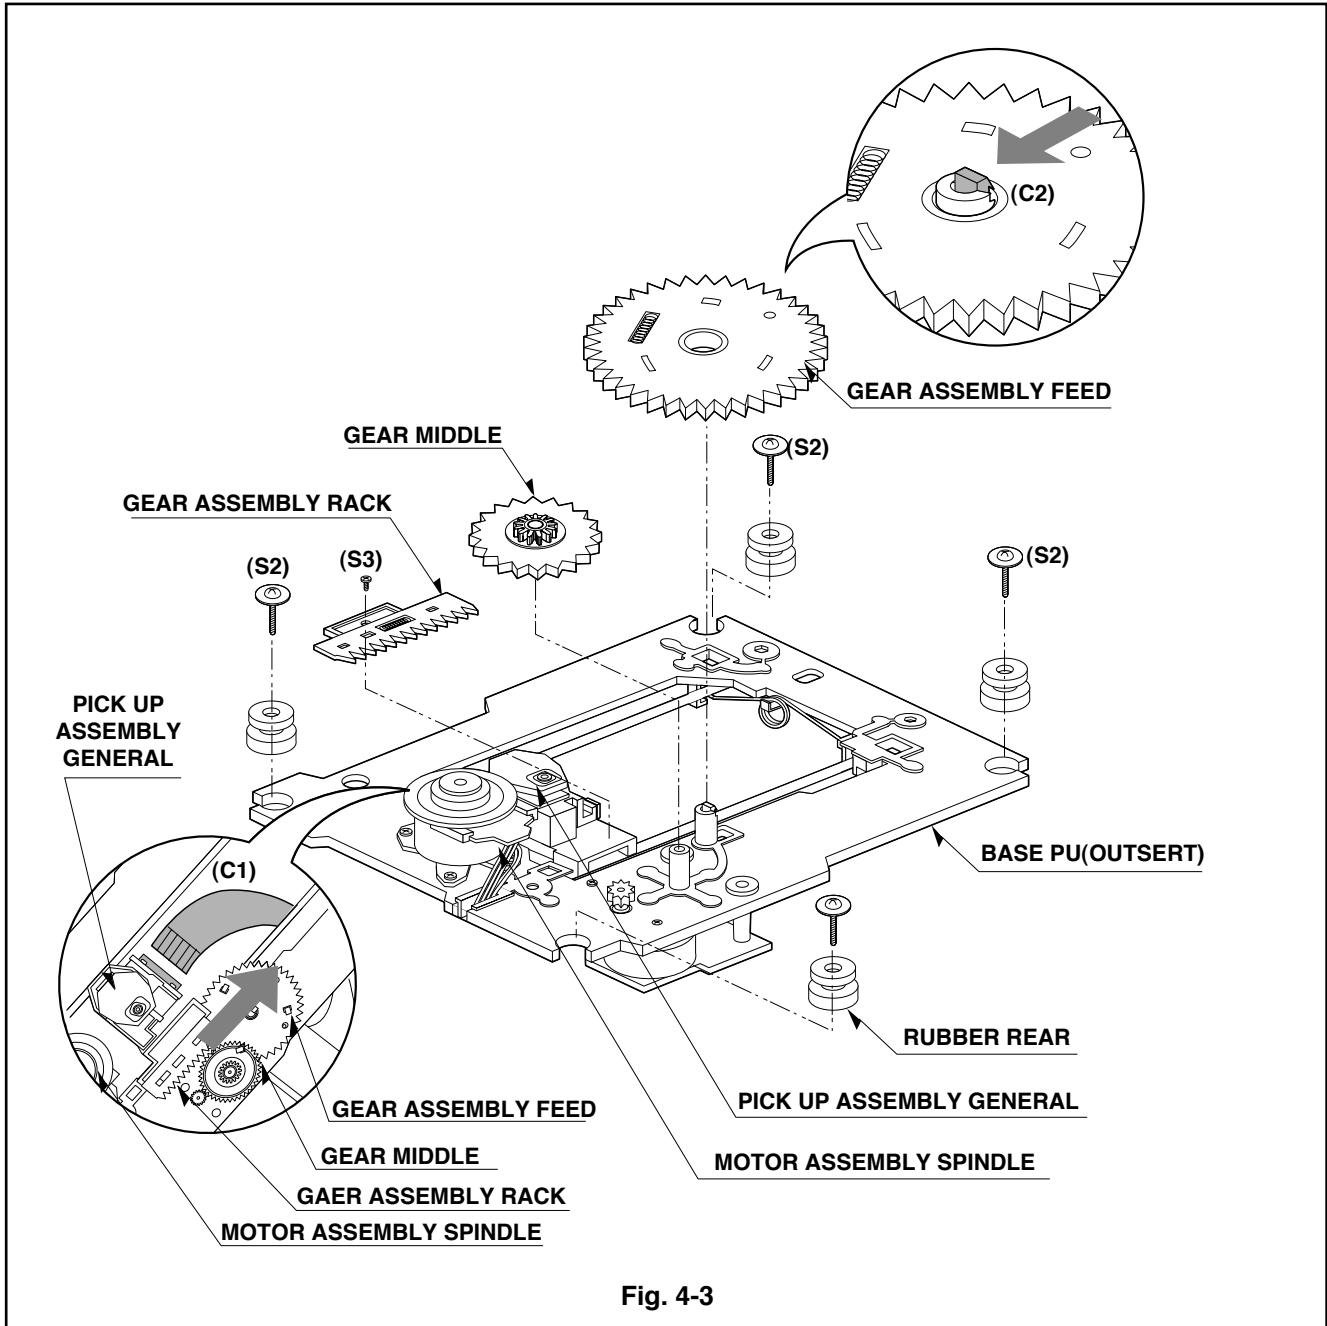

Fig. 4-3
**3. Base Assembly Sled (Fig. 4-3)**
**4. Rubber Rear (Fig. 4-3)**